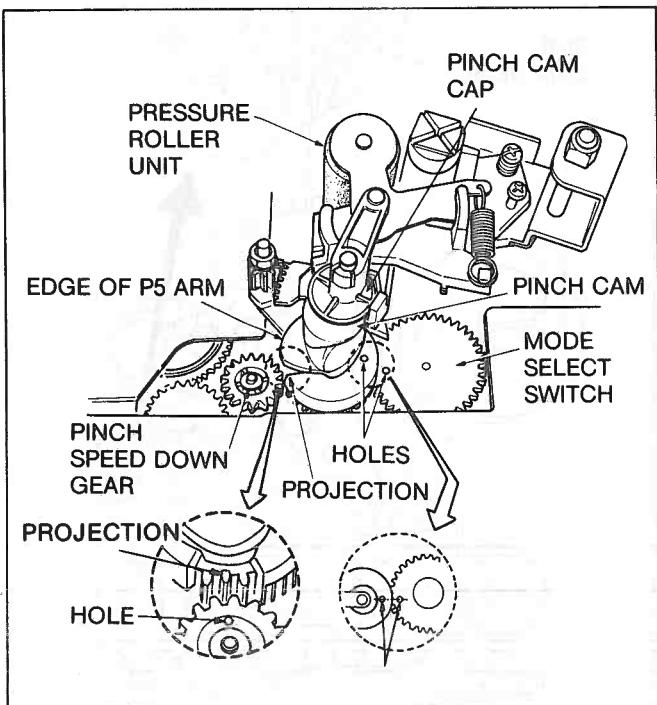

Figure M58
1. Install the Pinch Cam while pushing the P5 post forward. The Pinch Cam Gear should drop to a seated position. In this position make sure hole in the Mode Select Switch aligns with small hole on the Pinch Cam, also the small rift on the Pinch Cam should align with the hole on the Pinch Speed Down Gear as shown in Figure M58.